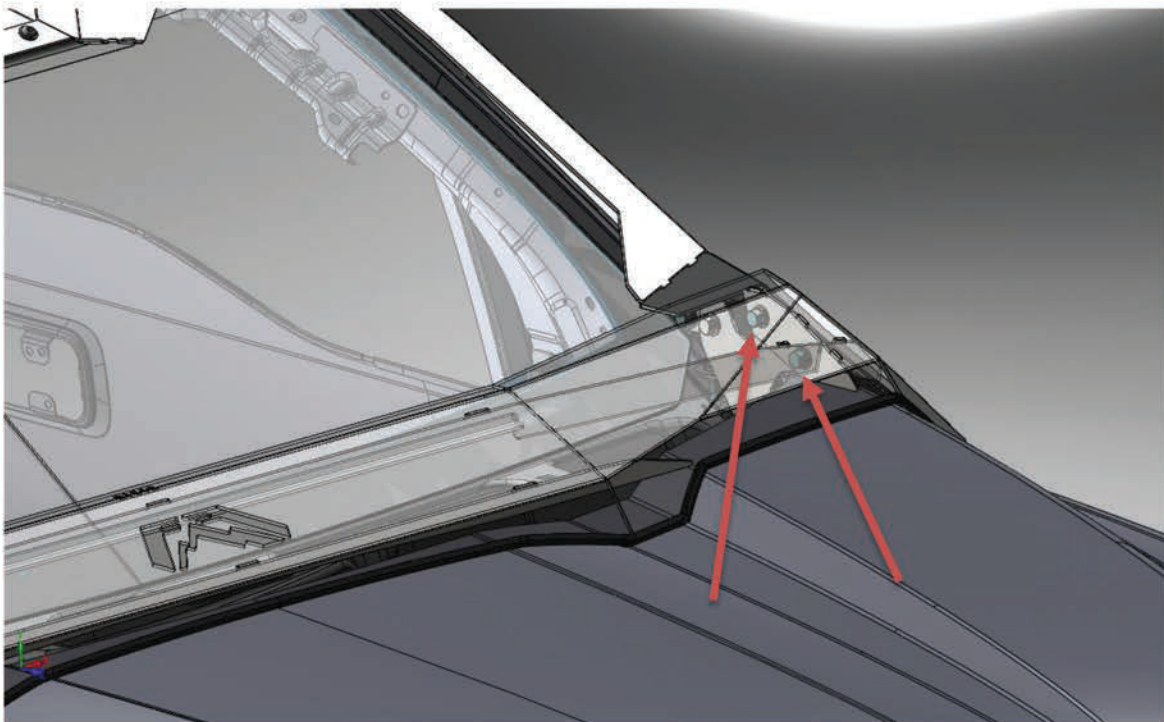

Fig 22
- t. Loosely install the four $\frac{3}{8}$ "-16 bolts, flat washers and lock washers into the cowl as shown in **Fig 22** and indicated by the red arrows.